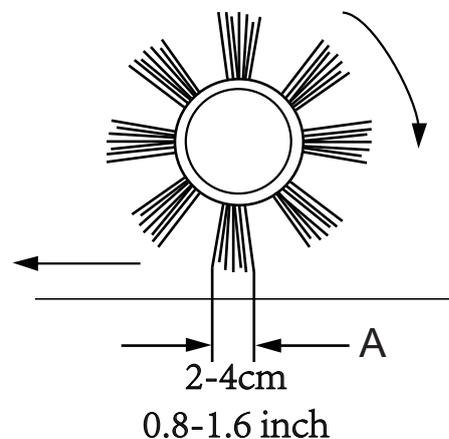

Figure1
- Check that the main brush print (A, Fig. 1), along its length is 0.8 to 1.6 in (2 to 4 cm) wide.
- If the print (A) is not within specifications, adjust the brush height as shown in step 2.